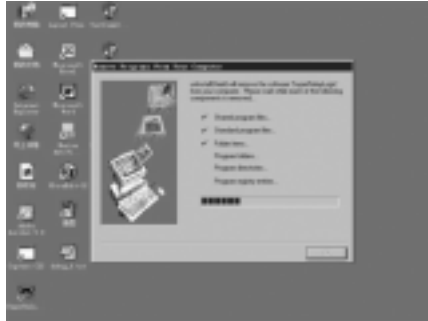

Fig. 1.11 Remove window of Super Relay
- When a Confirm Uninstall dialog box, as shown in Fig. 1.11, appears, click Yes.